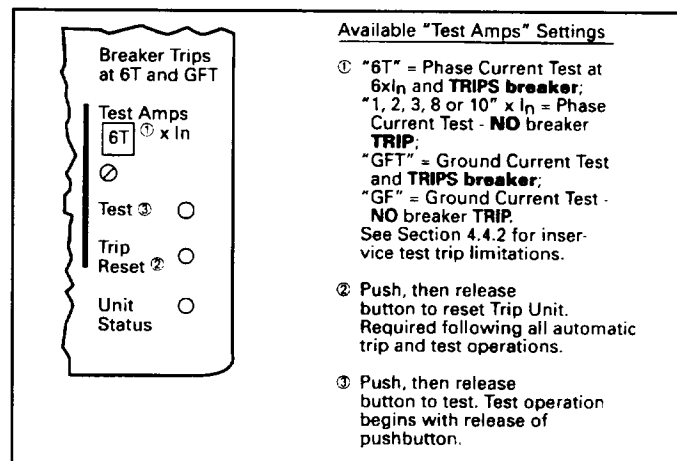

Fig. 9 Integral Test Panel (Lower Right Corner of Trip Unit)
As indicated in Fig. 9, note 1, six different “Test Amps” settings (1, 2, 3, 6T, 8 and  $10 \times I_n$ ) are available for testing the phase elements of the Trip Unit, and two settings (GF and GFT) are provided for testing the ground element.
1. Place the "TEST AMPS" selector switch (see Fig. 9) in one of the six "No Trip" test settings, i.e., 1, 2, 3, 8, or 10 x  $I_n$ , or GF.
4. Reset the Trip Unit by pressing and releasing the "TRIP RESET" push-button; all LEDs lighted by the "No-Trip" test action should turn "OFF", and the display will again show the value of the current through the breaker. In the event that no one resets the Trip Unit after a test, it will wait for about three (3) hours, and then it will automatically revert back to its pre-test status.
2. Place the "TEST AMPS" selector switch (See Fig. 9) in either the "6T" (or "GFT") position.
3. Press and release the (Black) "TEST" push-button (See Fig. 9) — the test starts when the push-button is released and the elapsed time is displayed in the window.
5. Reset the Trip Unit by pressing and releasing the "Trip Reset" push-button (See Fig. 9). All LEDs lighted by the "Trip" test action should turn "OFF", and the display window will again show the value of current flowing in the breaker.